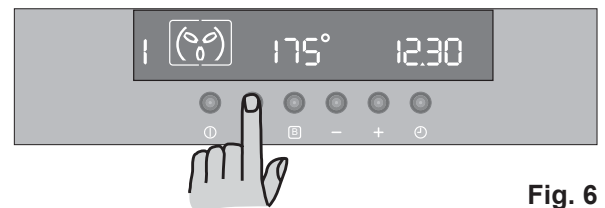

Fig. 6
1) Switch on the oven by pressing the ① button.
2) Press button □ to select the required oven function. Each time button □ is pressed, a cooking symbol will appear in the display and the corresponding cooking function number will appear to the left of the currently selected cooking function symbol (Fig. 6).